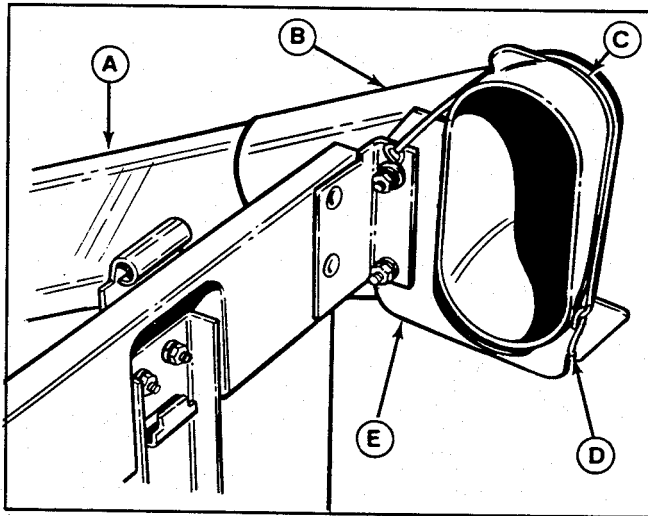

Figure 33.
- Insert tube (A, figure 33) into elbow, then insert the elbow (B) into the elbow bracket (E). Pull the rubber strap (C) over the elbow and hook as shown.